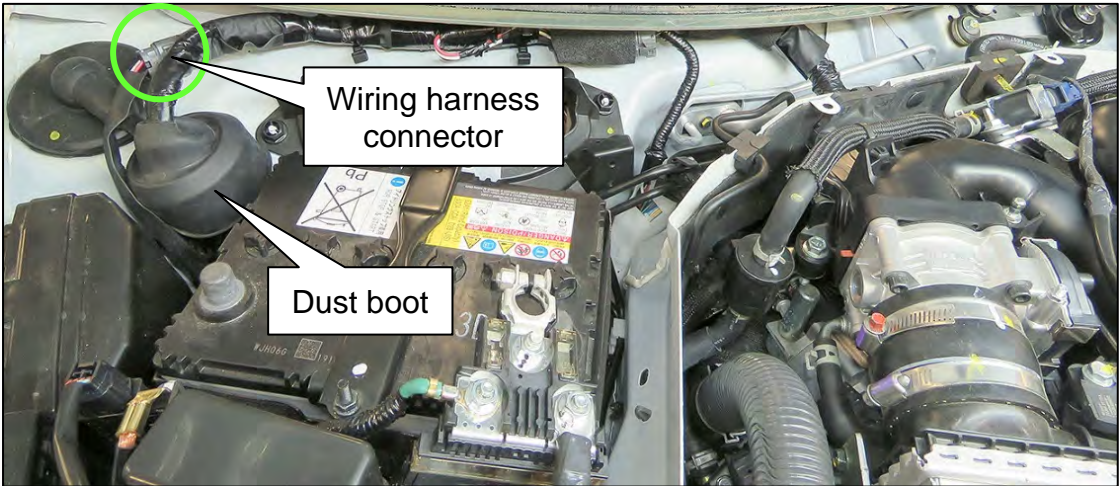

Figure 132
- 200. Roll down the wiring harness dust boot (Figure 132).
- 201. Reconnect the wiring harness connector shown in Figure 132.